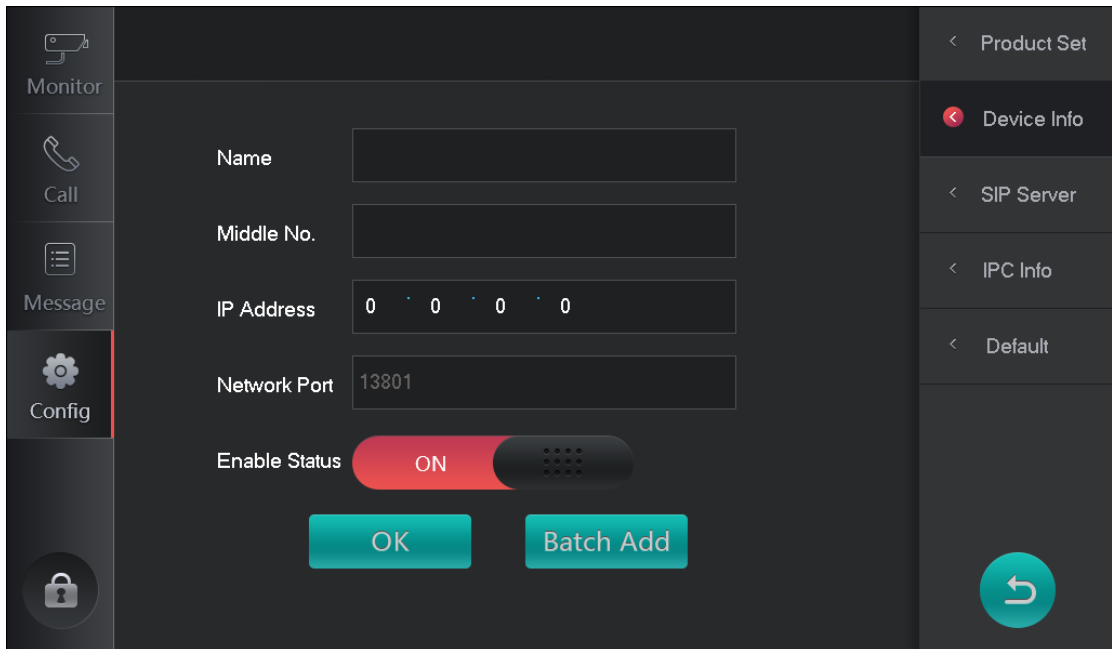

Figure 3-4
Step 3. Click Add. See Figure 3-4.